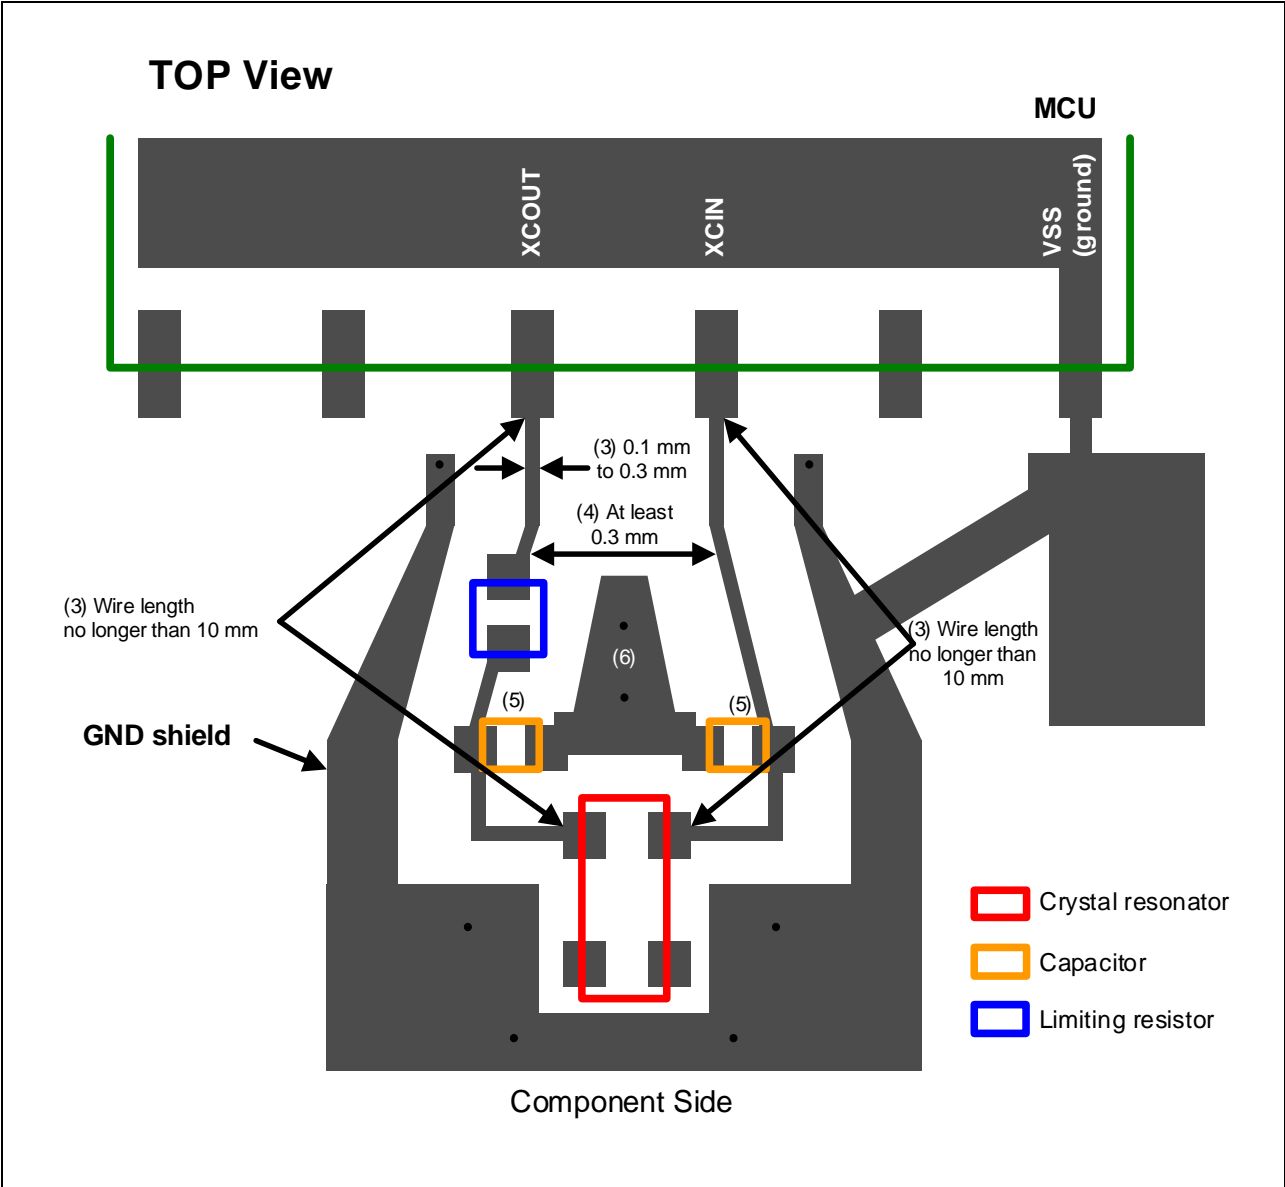
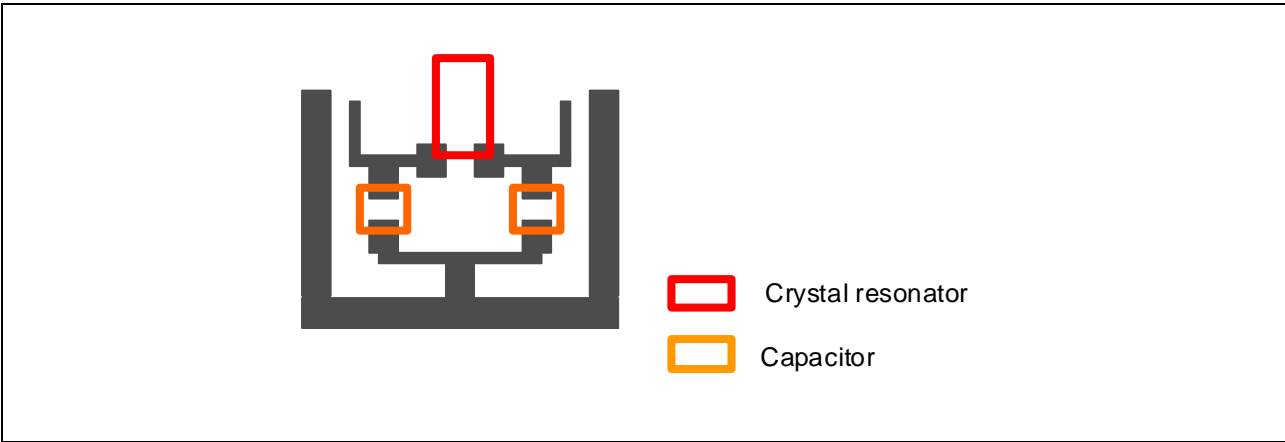

Figure 3.6 Example of Preferred Trace for XCIN and XCOU Wiring
Figure 3.7 Example of Alternate Trace for XCIN and XCOU Wiring
(1) to (6) below describe points on wiring for XCIN and XCOUT. Figure 3.6 shows an example of preferred trace for XCIN and XCOUT wiring. Figure 3.7 shows an example of alternate trace for XCIN and XCOUT wiring.
(1) Do not cross the XCIN and XCOUT wires with other signal wires.
(2) Do not add an observation pin to XCIN and XCOUT.
(3) Make the XCIN and XCOUT wire width between 0.1 and 0.3 mm. The wire length from the MCU pins to the crystal resonator pins should be less than 10 mm, or at least as close to 10 mm as possible if longer.
(4) The wire connected to the XCIN pin and the wire connected to the XCOUT pin should have as much space between them (at least 0.3 mm) as possible.
(5) Connect external capacitors as close together as possible. Connect the wire for the capacitors to the ground trace (hereinafter referred to as ground shield) on the component side. For details, see the points on the ground shield. When the capacitors cannot be laid out as shown in Figure 3.6, use the layout shown in Figure 3.7.
(6) In order to decrease the parasitic capacitance between XCIN and XCOUT, include a ground trace between the resonator and the MCU.